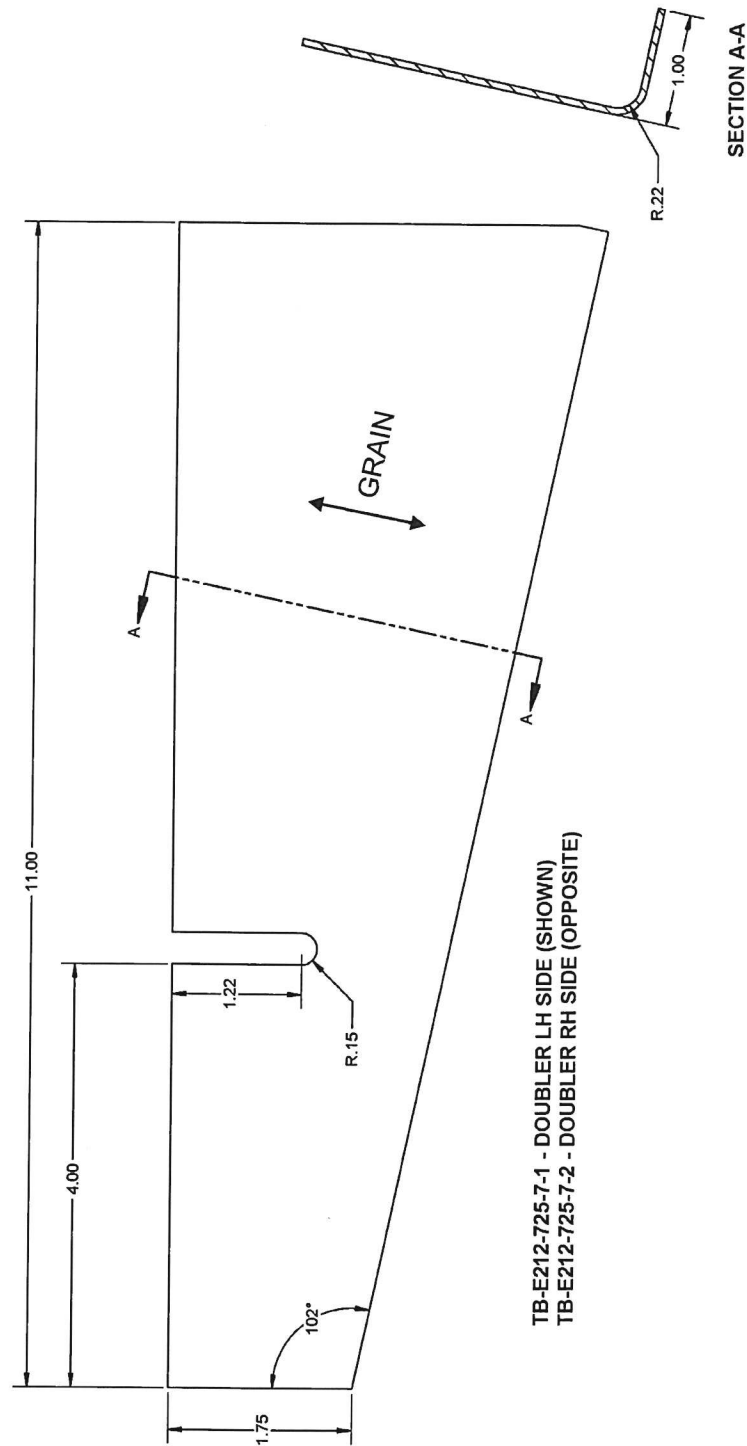

Figure 1 TB-E212-725-7-1/-2 Doubler
5. Prepare TB-E212-725-7-1 (-2 Opposite) Doubler as shown in Figure 1. Break all sharp edges.